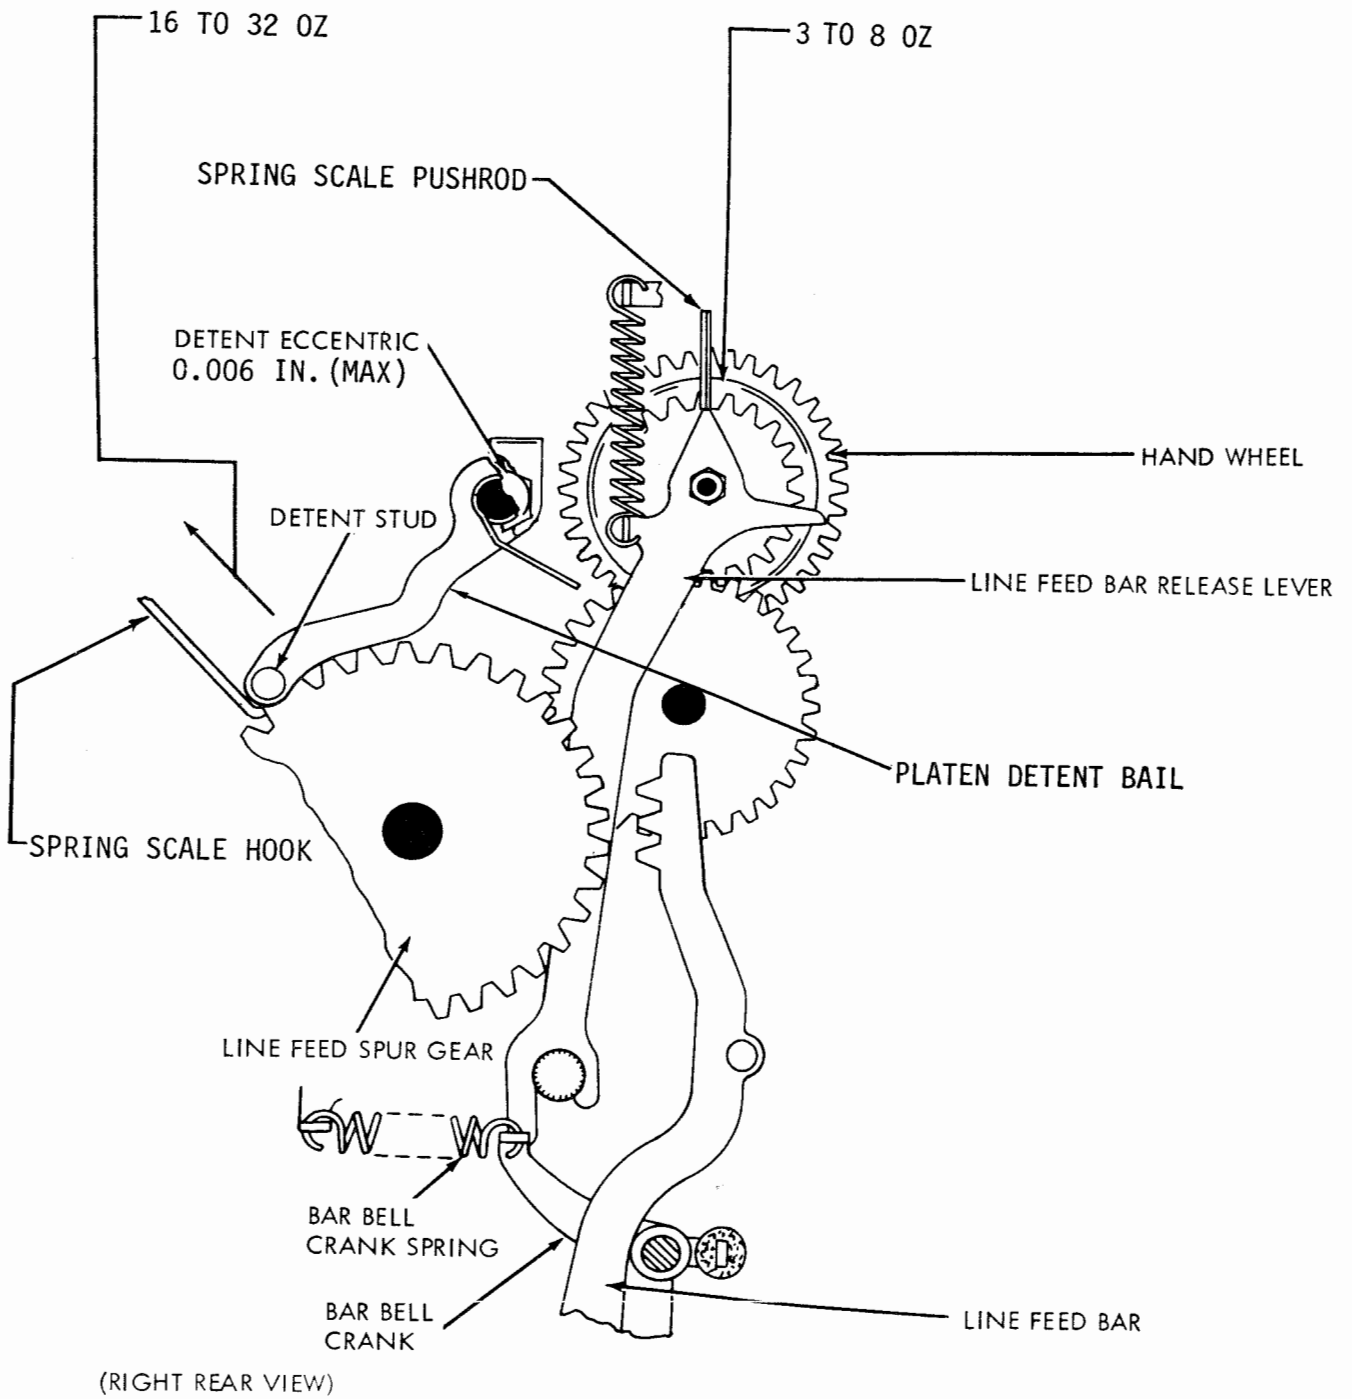

Figure 6-204. Line Feed Bar Release Lever Spring and Platen Detent Bail Spring, and Line Feed Spur Gear Detent Eccentric
(a) Refer to figure 6-204.
- (a) Refer to figure 6-204.